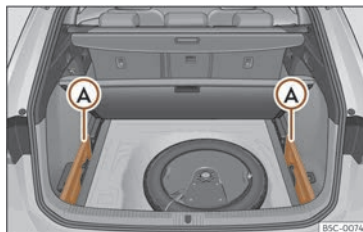

Fig. 177 In the boot: space to store the retractable shelf.
- Remove the left and right covers >>> Fig. 177 ①.